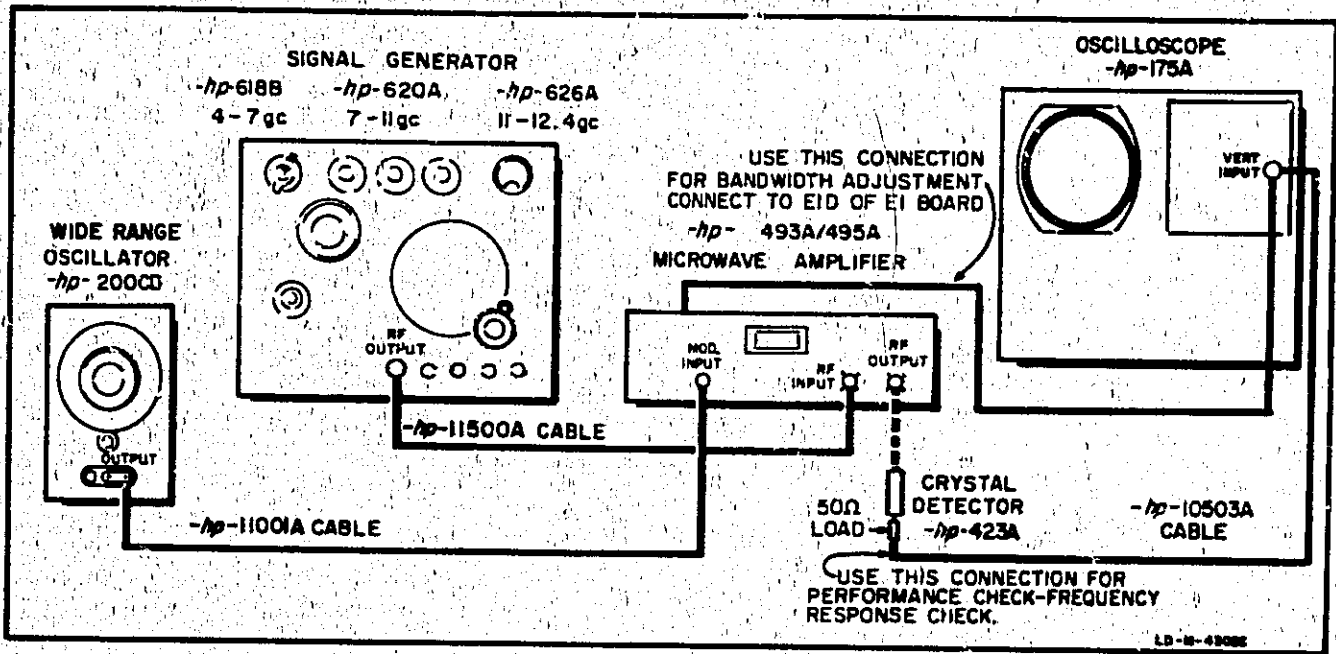

Figure 5-7. Bandwidth Setup
- a. Connect the Model 493A as shown in figure 5-7.
- Connect the Model 493A as shown in figure 5-7.